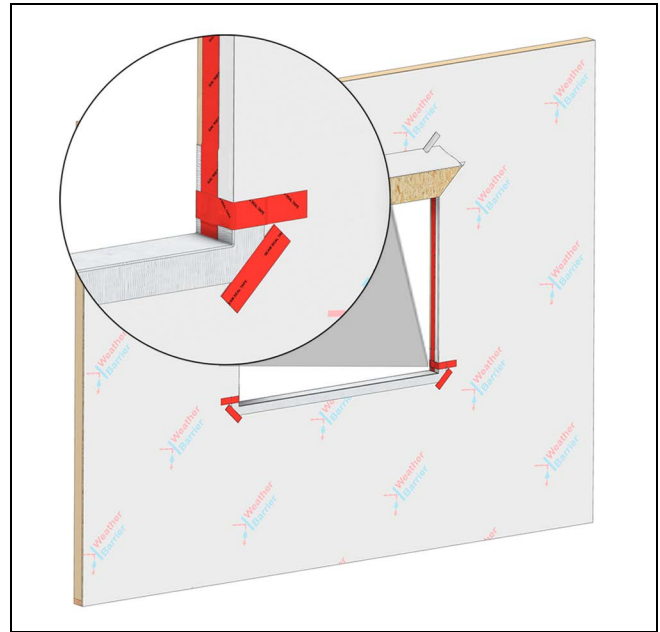

Figure 22
5. Apply seam seal tape over the corners. Place plastic or composite shims at the ends and in the middle of the RO to counter the slope of the sill wedge and support the unit. Fasten with adhesive or finish nails. If using finish nails, place adhesive under shim where the nail will penetrate. See Figure 22.